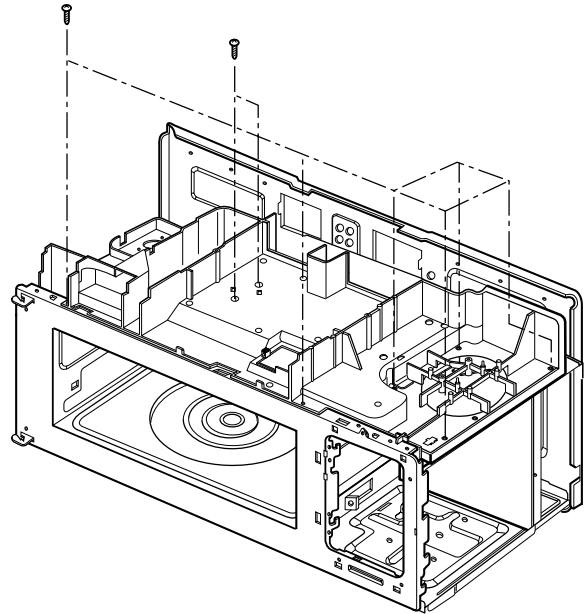

Figure 24
- (1) Remove all screws from out case and remove the out case.
- (2) Remove 5 screws securing the air duct to the oven cavity, and remove 2 screws securing the stirrer fan motor to the bracket. (Figure 24)